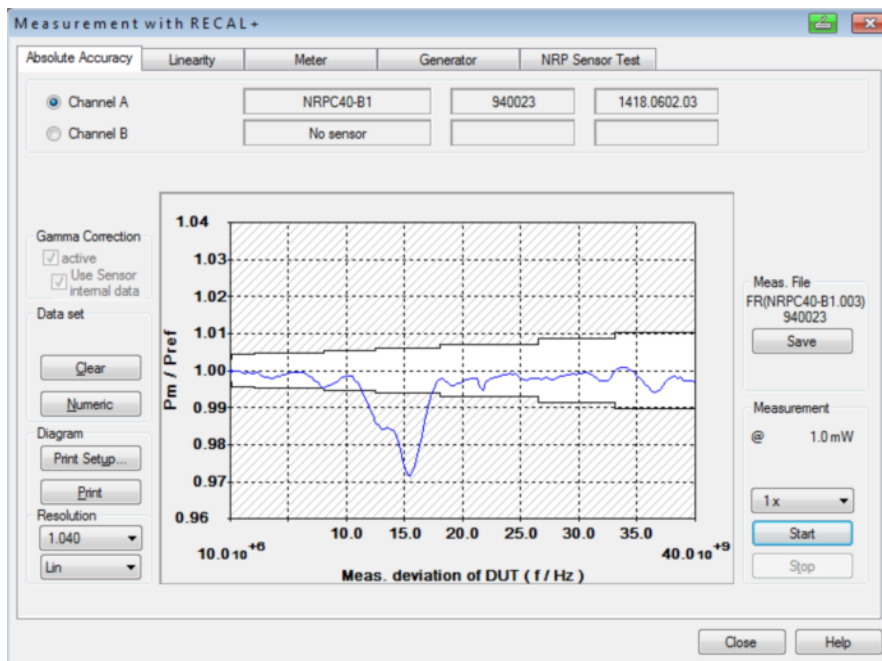

Fig. 4-1 Verification result for an R&S[®]NRPC40 power standard following damage to the RF connectors
Perform one or more measurement cycles (depending on requirement); otherwise proceed as described under **Checking the Absolute Accuracy**. The averaged trace must lie within the tolerance band shown in the graphical display. The tolerance limits are significantly tighter compared to a normal thermal sensor. If the trace rises or falls uniformly over all of the frequency range, this indicates a change in the sensitivity of the power standard or the verification sensor. An oscillating frequency response as seen in Fig. 4-1 indicates that the matching conditions on the RF connection have changed. In this case, a visual inspection is necessary and the connectors should be cleaned. If the ripple does not disappear despite cleaning the connectors of the verification sensor and the power standard, the RF connector for the power standard can be exchanged with the supplied replacement adapter ⁽²¹⁾. For a description of the steps required to do this, see the appendix under **Exchanging the RF Connector at the Test Port of the Power Standard**.
The objective of the measurements is to check the characteristics of the power standard, reference attenuator and R&S®NRV-Z51 verification sensor for DC voltages and to use correction factors to eliminate the effects of drift due to aging or ambient conditions. The set of correction data is stored in an editable calibration program file so that it can be cleared at any time as required and the incoming status restored. The correction data can be activated only in conjunction with **R&S®Recal+**. The menu-driven measurements are performed on a measurement setup as shown in Fig. 4-1. The individual measurement setups are listed in Table 4-1.
- Allow the test setup shown in Fig. 4-1 to warm up for at least an hour. Do not forget to connect the ⑰ verification sensor to the R&S®NRVD